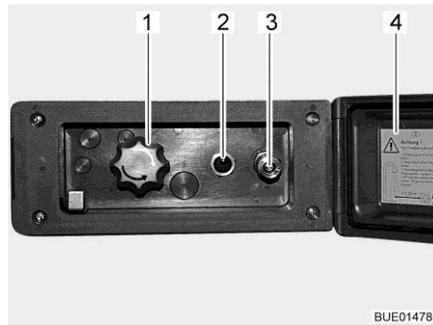

Fig. 168 External shower connection point
- Unlock and open the cover (Fig. 168,4).
- Attach hose of the external shower to the quick closure (Fig. 168,3).
- Switch on the water pump using the switch (Fig. 168,2).
- Adjust the water temperature with the rotary knob (Fig. 168,1) as desired.
- Switch off the water pump using the switch (Fig. 168,2).
- Close the cover (Fig. 168,4) and lock with key.
- Turn knob (Fig. 168,1) to the central position.